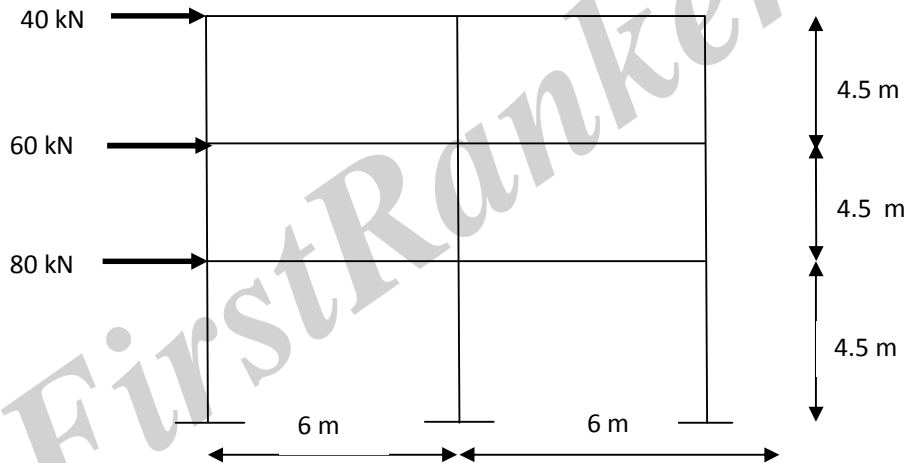

Fig.1
3. Analyse the frame shown in Fig.1, using Portal Method.